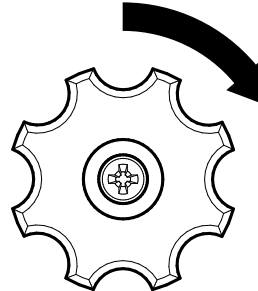

Figure 26. Propane Tank Shut-Off Valve (Closed)
4. If **LPG** mode was in use, turn the shutoff valve knob clockwise to **CLOSE** (Figure 26).